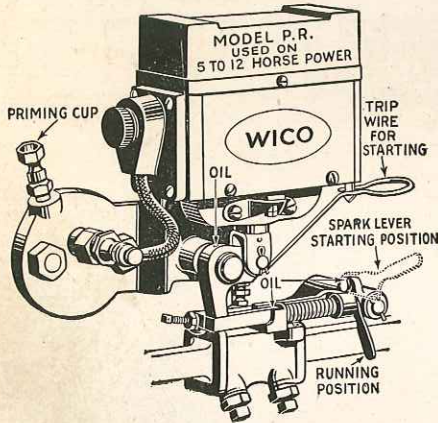

Figure 5.
**First.** Open the priming cup (Figure 5) (screw the top to the left two turns) to relieve compression, turn on the oil by raising the small lever on top of the lubricator.
Oil magneto with regular engine cylinder oil, as shown in Figure 5, page 4, each time you run the engine; not too much, only a few drops. Keep the magneto clean and be sure the surfaces between the armature and poles of magneto are clean.